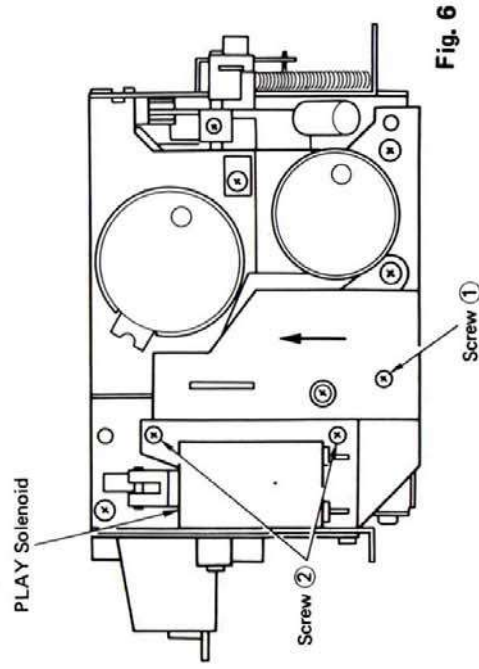

Fig. 6
- 1) Remove the mechanism assembly as described in procedure 1 above. Remove screw ① shown in Fig. 6, and then remove the Inter Connect P.C. Board.
- 2) To remove the play solenoid, remove 2 screws ② shown in Fig. 6.